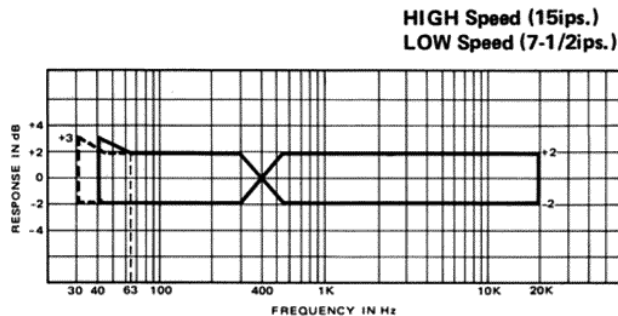

Figure 6-3. Reproduce Frequency Response
2. Reproduce the test tape, and check the output level readings meet specifications for each of the frequencies specified in Figure 6-3.
Output level from the 400 Hz recording serves as the reference. (See Figure 6-3 for specifications.)
5. Reproduce the test tape, and check the output level readings are within specifications. See Figure 6-3 for specifications.